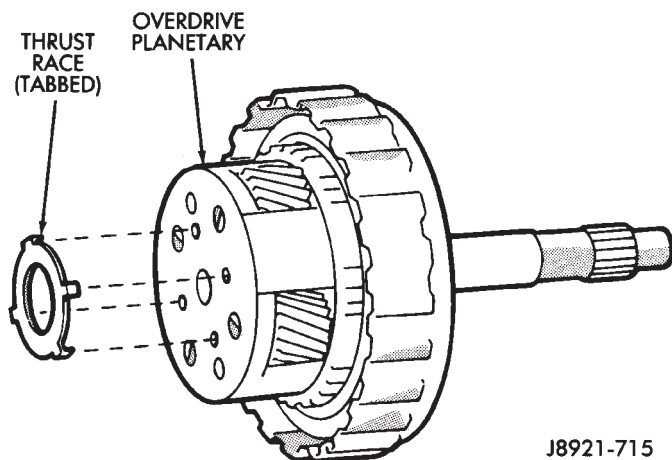

Fig. 48 Installing Planetary thrust Race
(60) Coat tabbed thrust race with petroleum jelly and install it on planetary gear (Fig. 48). Race outer diameter is 41.8 mm (1.646 in.) and inside diameter is 27.1 mm (1.067 in.).